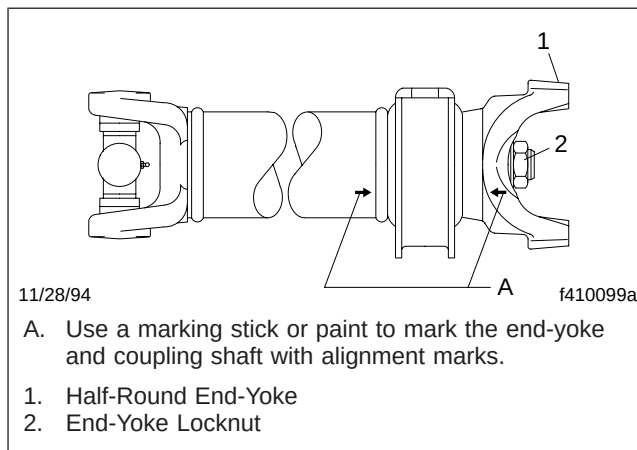

Fig. 6, Alignment Marks on a Coupling Shaft With an End-Yoke
3. Install the end-yoke, as follows: See Fig. 6.
- 3.2 Align the marks added to the coupling shaft and end-yoke during removal, then place the end-yoke on the shaft so the yoke bores are aligned at both ends of the shaft. See Fig. 6.
For a coupling shaft, check that the end-yoke and tube-yoke are aligned, so that the U-joints at each end of the coupling shaft will be in phase. See Fig. 6.
each end of the coupling shaft will be in phase. See **Fig. 6**.